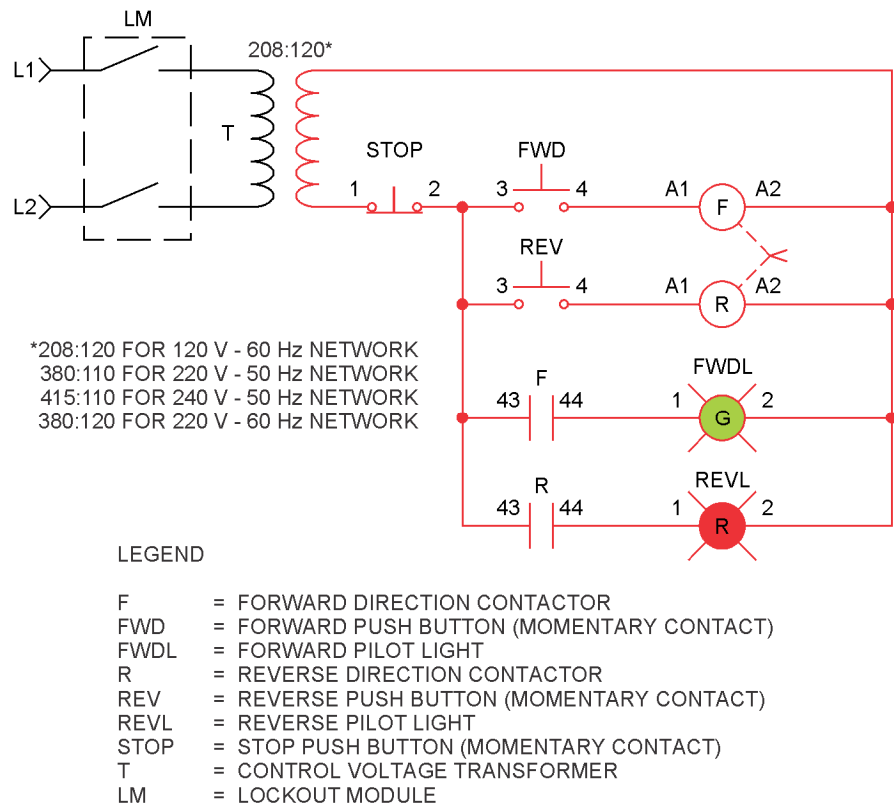

Figure 3-11. Dual contactors testing circuit.
Refer to the circuit of Figure 3-11. A mechanical interlock (in dashed lines) is located between the two contactor coils. When one of the two contactors is energized, the contacts of the other contactor are mechanically maintained, even if the second coil is energized. This method provides a level of security against short-circuits resulting from stuck contactors. This explains why mechanical interlocks are so common in the industry.
16. Connect the circuit shown in Figure 3-11.